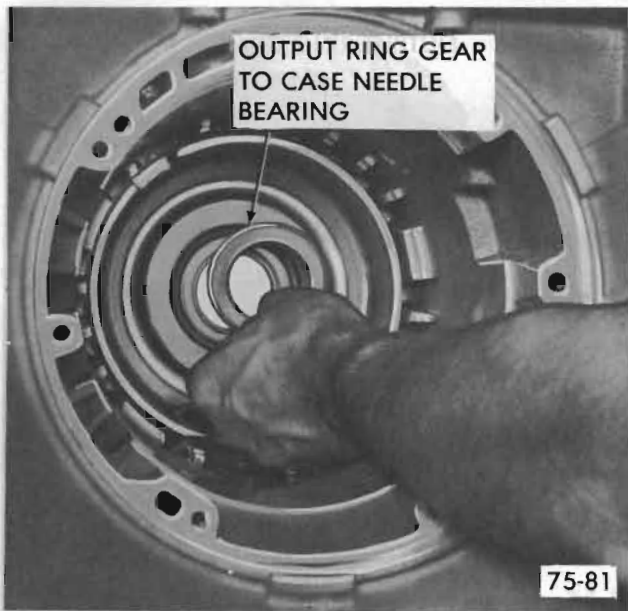

Figure 75-229
3. Install output ring gear to case needle bearing assembly. See Figure 75-229.